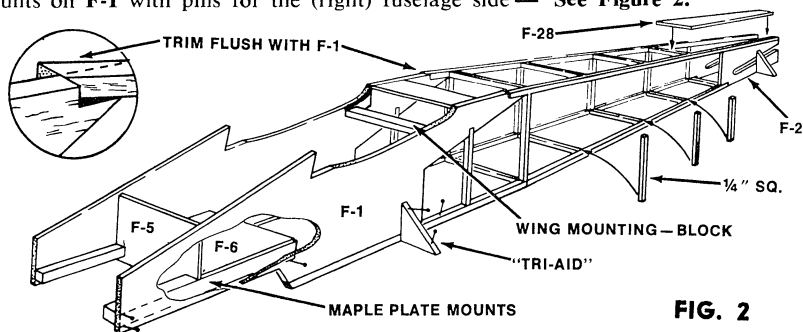

FIG. 2
5. Study Figure 2. Glue $\frac{1}{2}'' \times \frac{1}{2}'' \times 6\frac{5}{8}''$ maple motor-plate mounts on F-1 sides in printed positions. Make a left and a right side. Transfer the printed marks for mounts on F-1 with pins for the (right) fuselage side — See Figure 2.